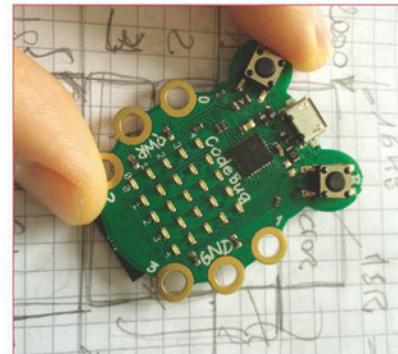

Figure 1: CodeBug – coding just became physical
So it won't be a surprise if I write that, whilst amazed by the new record low reached by what is, after all, just another personal computer (PC), I won't be buying one this Christmas – sorry! I have instead already purchased a CodeBug to put under the tree for my son. It does not run Linux, and instead of an HDMI display port it features a 5 x 5-matrix LED display, which I find a plus and it looks like much more fun; see Figure 1.